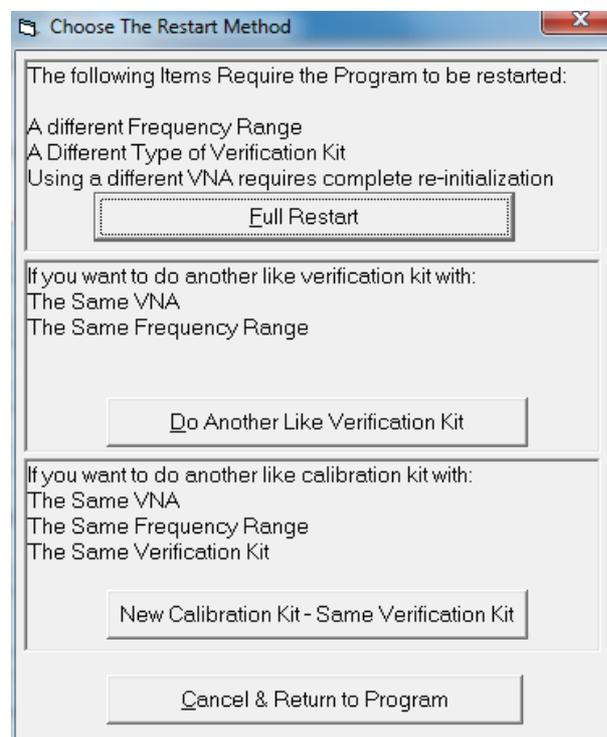

Figure 5-56. Choose The Restart Method Dialog
3. The Choose The Restart Method dialog box appears as shown below in Figure 5-56.